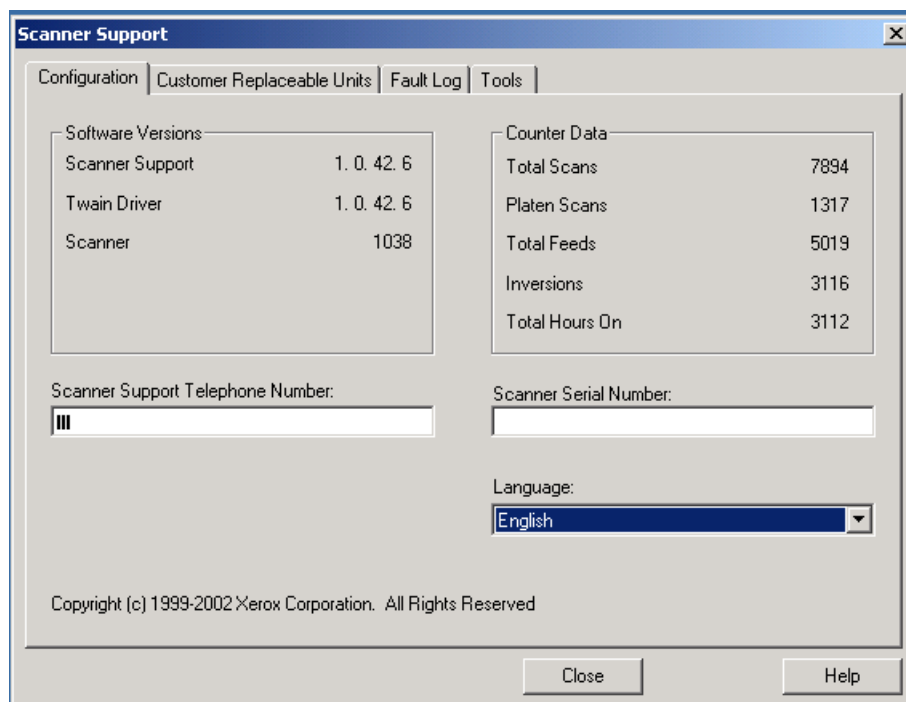

Figure 4-1. Scanner Support dialog box
1. Select [Start: Programs: Xerox DigiPath Production Software: Scanner Support (DigiPath Scanner)] from the Windows desktop. The Scanner Support dialog box opens. See Figure 4-1.